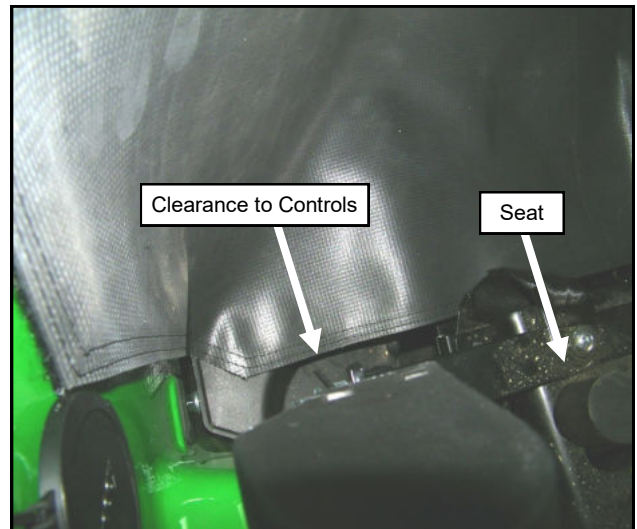

Fig. 22.3 (Controls Next to Seat)
**22.3** Ensure the filler does not interfere with operation of the controls next to the seat. See Figure 22.3.